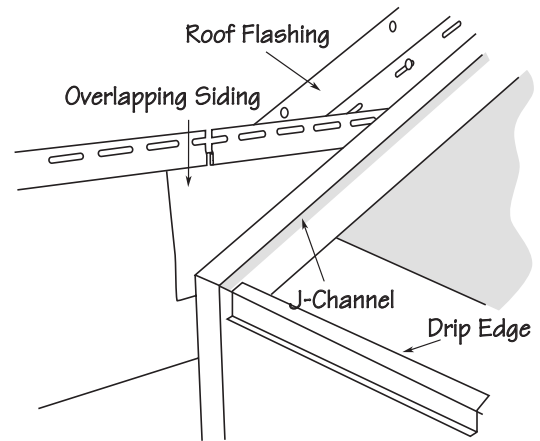

Figure 45.
- Cut a small piece of siding that will be placed on top of the previous piece of siding and sits in the roof J-channel (Fig. 45).